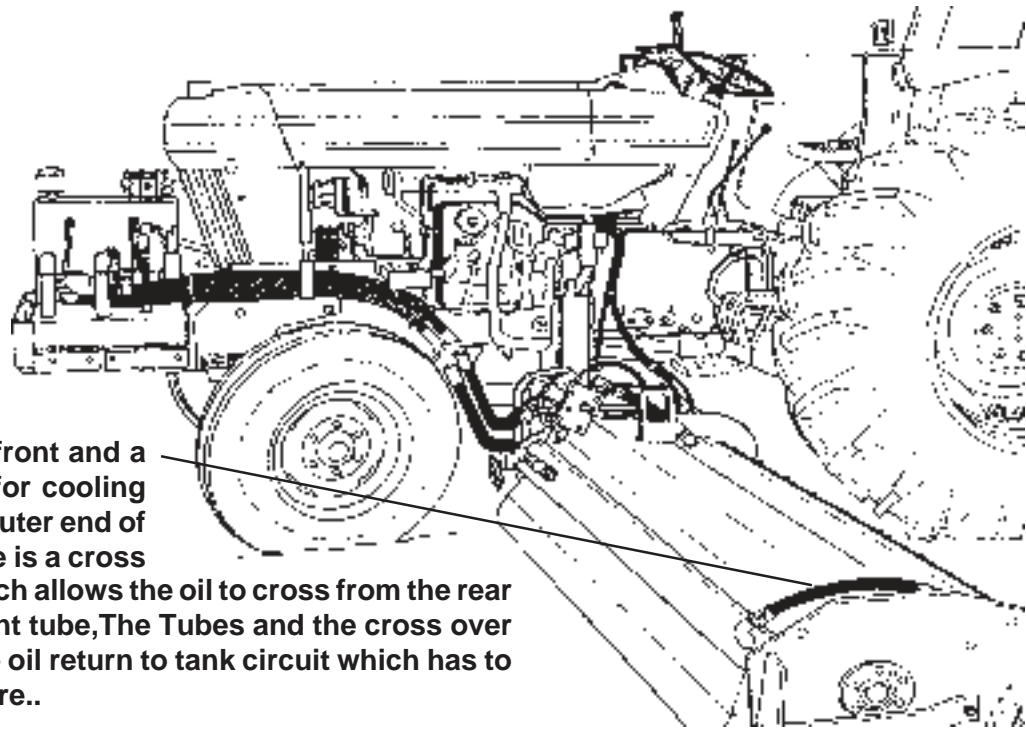

Figure 32
**23. Install Return Filter Pressure Gauge.** The return filter pressure gauge screws into the side of the return filter housing. This gauge is a low pressure gauge that is marked in green and red areas. (See Figure 32). The Oil Pressure return gauge has a rubbery tip on top of it, the tip till have to have the tip of it cutoff. Using a utility knife (or suitable knife) cut the tip off now (See Figure 20). This will need to be done before unit is run.